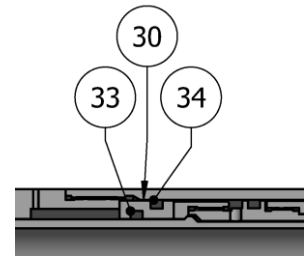

Fig. 3
K-1.3) Install compensating piston (30) onto inner mandrel (2). Install compensating piston (30) in the correction orientation to ensure tool works properly (Fig. 3).